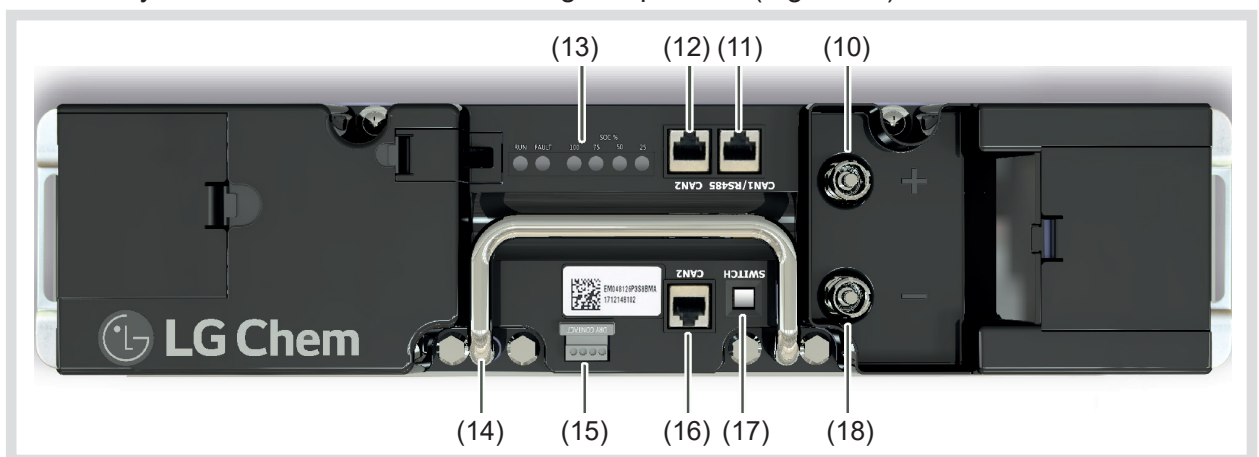

Figure 34: Battery module top view
**i** The battery modules are shown below as they are used in the energy storage system: The battery module consists of the following components (Figure 34).